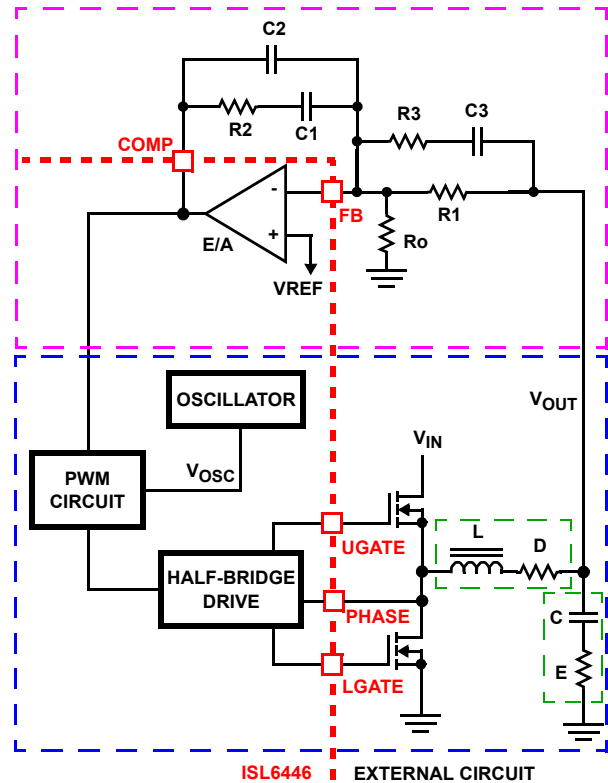

FIGURE 26. VOLTAGE-MODE BUCK CONVERTER COMPENSATION DESIGN
Figure 26 highlights the voltage-mode control loop for a synchronous-rectified buck converter, applicable to the ISL6446 circuit. The output voltage ( $V_{OUT}$ ) is regulated to the reference voltage,  $V_{REF}$ . The error amplifier output (COMP pin voltage) is compared with the oscillator (OSC) modified sawtooth wave to provide a pulse-width modulated wave with an amplitude of  $V_{IN}$  at the PHASE node. The PWM wave is smoothed by the output filter (L and C). The output filter capacitor bank's equivalent series resistance is represented by the series resistor E.
The compensation network consists of the error amplifier (internal to the ISL6446) and the external R1-R3, C1-C3 components. The goal of the compensation network is to provide a closed loop transfer function with high 0dB crossing frequency ( $F_0$ ; typically 0.1 to 0.3 of  $F_{SW}$ ) and adequate phase margin (better than  $45^\circ$ ). Phase margin is the difference between the closed loop phase at  $F_{0dB}$  and  $180^\circ$ . The equations that follow relate the compensation network's poles, zeros and gain to the components (R1, R2, R3, C1, C2, and C3) in Figure 26. Use the following guidelines for locating the poles and zeros of the compensation network:
1. Select a value for R1 (1k $\Omega$  to 5k $\Omega$ , typically). Calculate the value for R2 for desired converter bandwidth ( $F_0$ ). If setting the output voltage via an offset resistor connected to the FB pin,  $R_o$  in Figure 26, the design procedure can be followed as presented in Equation 13.